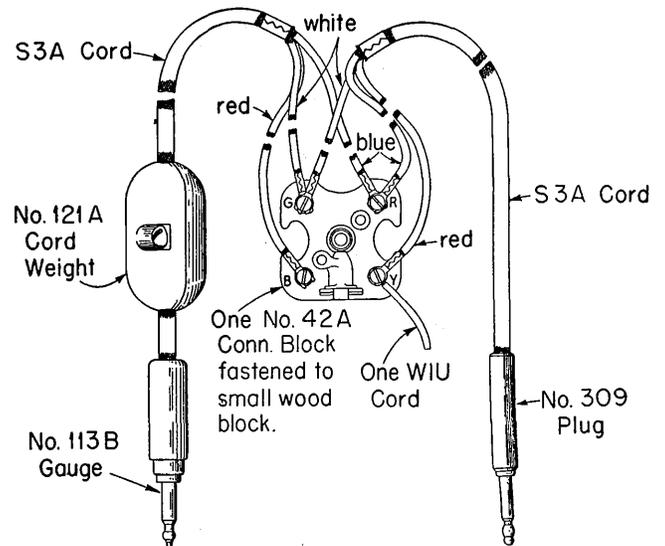

Fig. 1
- 2.06 Test Cord Assembly shown in Fig. 1, or equivalent. (To be made up locally.)